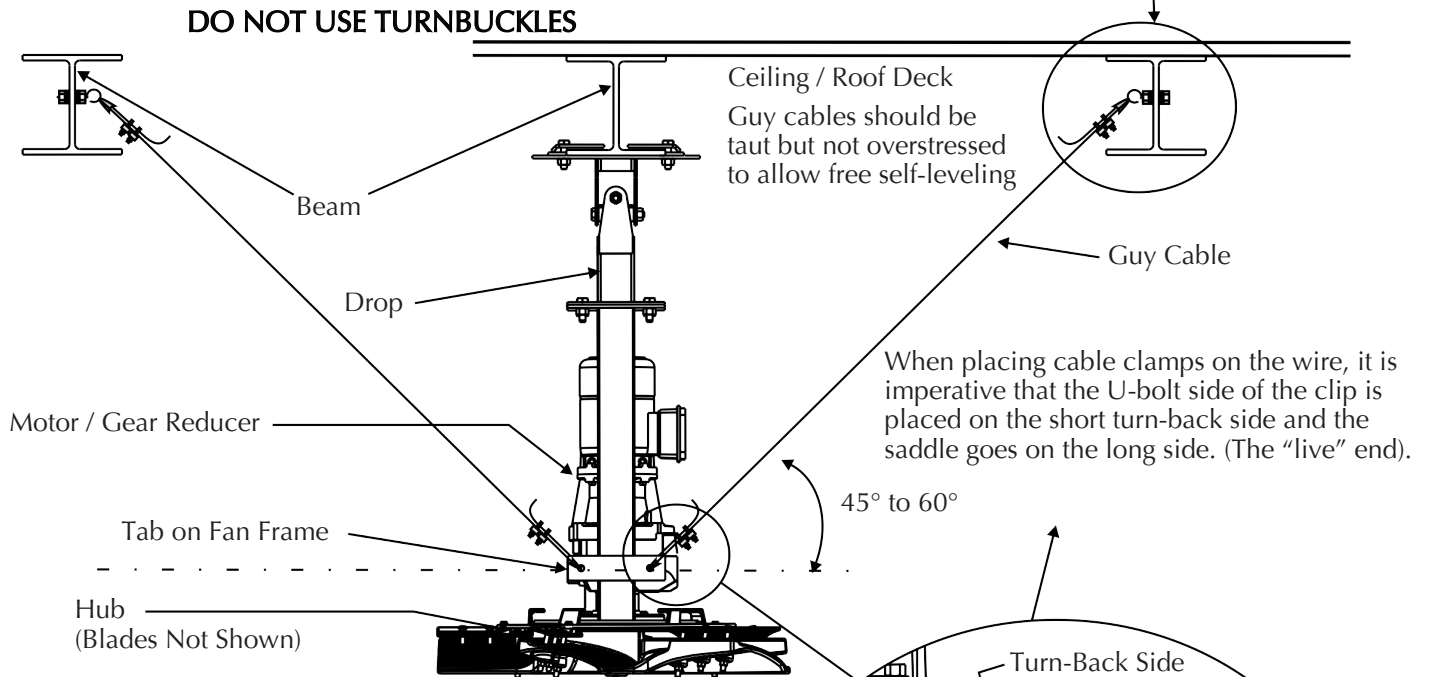
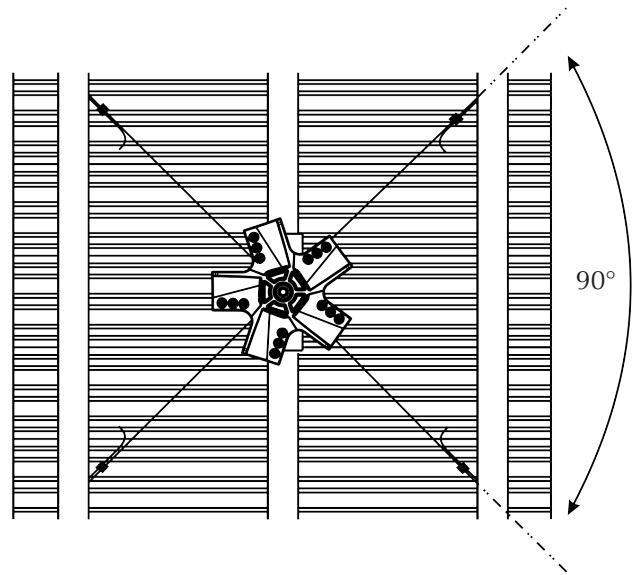

FIG.15
FIG.17
**STRUCTURAL NOTE:** Guy cables must be installed or fastened to a structural component of the building at the angle shown in Fig.15 and Fig.17.
2. Install eye bolt with nuts and washers in I-Beam as per Fig.15.
5. Guy wires should be taut but not over-stressed to allow free self-levelling. They should also be approx. 90o apart (Fig.17).